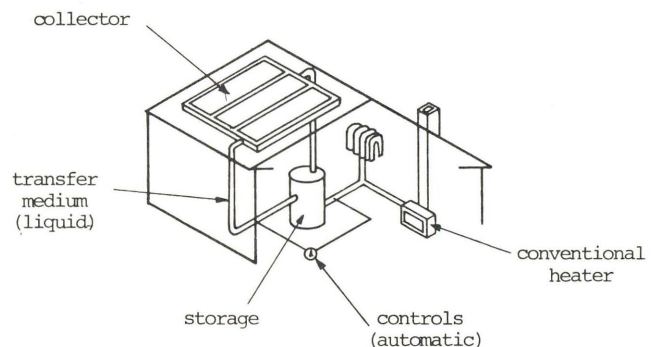

Figure 1. — An active system.
A. There are two basic types: active and passive (see Figures 1 and 2). Active systems are divided into liquid and air systems. They use pumps and pipes (or fans and ducts) to carry heat